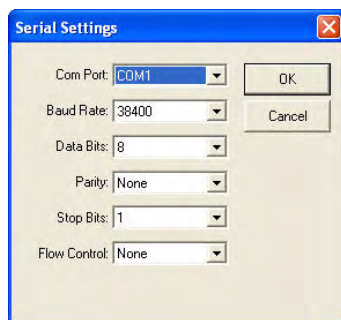

FIG. 15 Serial Settings dialog box
6. Click the **Edit Settings** button to open the *Serial Settings* dialog (FIG. 15).